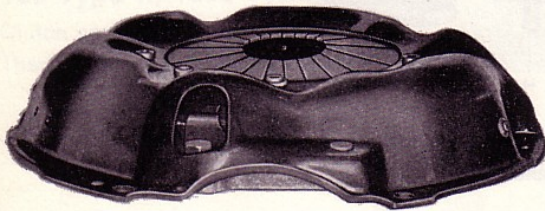

Fig. 3. Clutch, Borg & Beck
The clutch is of the single-plate, dry-disc type, and is available in various types. Two of these types are shown in Figs. 3 and 4. For the right combination of clutch and release bearing, see the spare parts catalogue. On the early prod. type clutch, see Illustration A, the pressure plate (22) is operated by three levers (31) which are actuated from the clutch pedal (18) via the hydraulic control system. The necessary pressure is obtained from six strong pressure springs (24). The clutch release bearing (25) is guided by a tubular extension on the bearing cover of the input shaft. On the late prod. type clutch, see Illustrations B and C, the levers and pressure springs are replaced by a diaphragm spring. The diaphragm